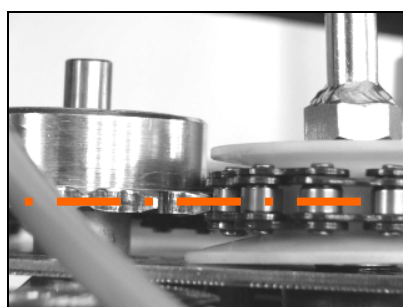

Fig. 69
- Assemble the clamping sleeve on the shaft so that the chain is in the centre of the tension pulley (Fig. 69)